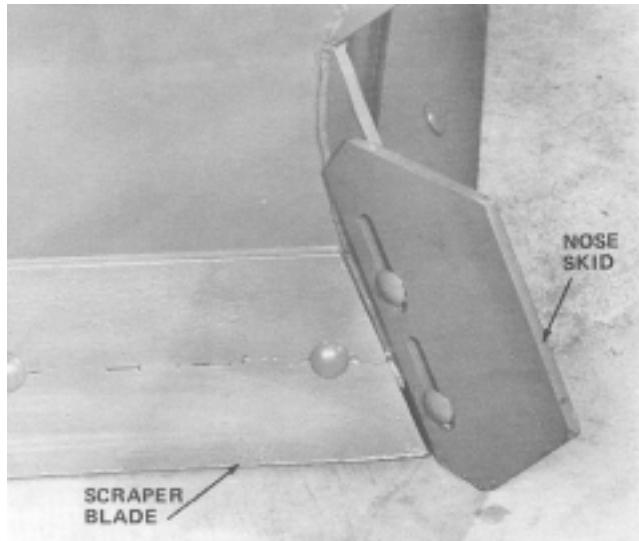

Figure 11
2. Loosen carriage bolts and nuts retaining nose skid to front of plow (Fig. 11). Next, adjust nose skid so it's bottom edge is even with bottom of plow (Fig. 11). Lastly, tighten nuts and carriage bolts so nose skid remains in place.
**Important** When scraper blades or nose skid (Fig. 11) wear down, they can be reversed by removing carriage bolts and nuts. Never allow scraper blades or nose skid to wear even with bottom surface of plow. Reverse scraper blades or nose skid before plow starts to wear.